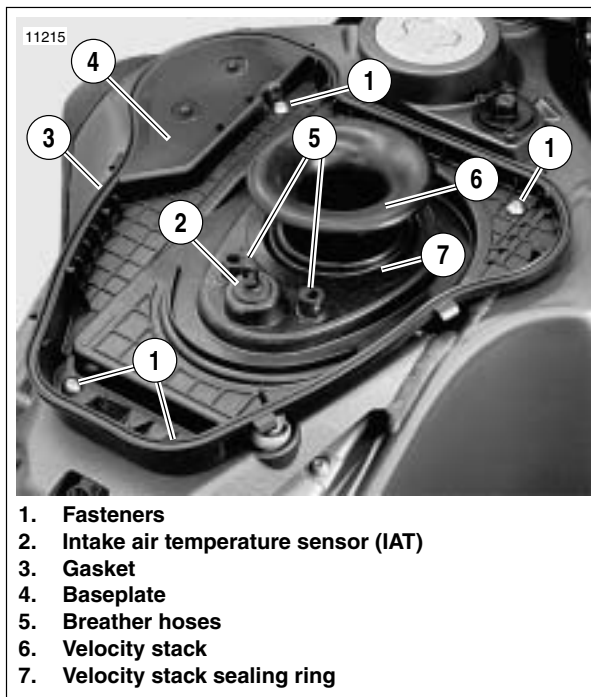

Figure 4-112. Baseplate (All Models)
2. Remove fuel vent tube from fuel cell vent and groove on top of air cleaner cover (1).
3. Disconnect and remove interactive exhaust harness (3).
4. Disconnect interactive exhaust cable (4).
7. See Figure 4-112. Remove air cleaner base plate.
- a. Remove four fasteners (1) and raise baseplate (4).
- e. Lift baseplate off of frame, carefully disengaging baseplate from rubber sealing ring on velocity stack (7).
5. See Figure 4-112. Inspect breather hoses, intake air temperature sensor grommet and baseplate gasket (3). Replace as necessary.
1. See Figure 4-112. Hold base plate above mounting position.